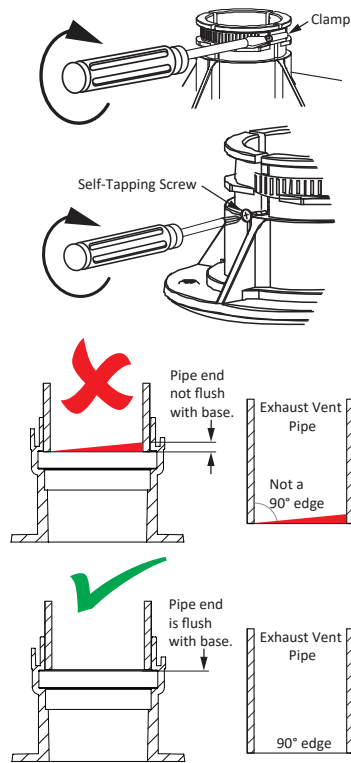

Figure 14 - Vent Pipe Installation
**1** For single pipe venting insert 2 in diameter straight pipe fully into the exhaust/intake connection ports until fully seated (See Figure 14). The pipes will insert at a minimum of 1.5 inches.
**2** Use a screwdriver to tighten the clamp. (See Figure 14)
**3** Use the supplied self-tapping screws to secure the venting to the intake and exhaust ports as shown in the image on the right. (See Figure 14)